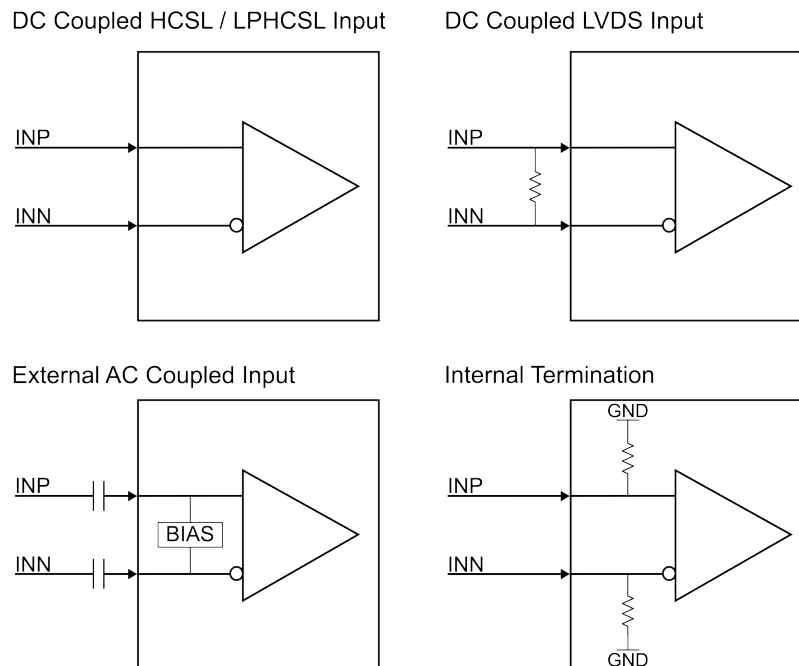

Figure 2-1. Input Interfaces
3. Connect 100 MHz reference clock to CLKIN_P/N. Refer to Figure 2-1 for different input reference configurations.
LMKDB1120 can support different input interfaces depending on the input swing and common mode voltage. There are four input interfaces type that can be configured on LMKDB1120 using external components and internal termination schemes as shown in Figure 2-1. If using signal generator, then make sure to populate $R34$ with a $100\text{-}\Omega$ resistor or use internal / external $50\text{-}\Omega$ termination to ground.